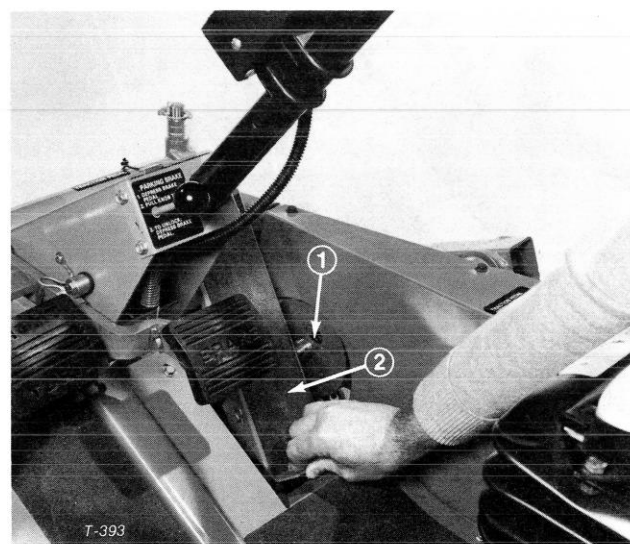

Figure 41
5. Turn cruise control switch and ignition switch to OFF. Manually actuate traction pedal to forward and reverse operating positions. Pedal should operate freely and the clutch plate should clear the end of the shaft assembly in reverse pedal position (Fig. 41). If plate does not clear the end